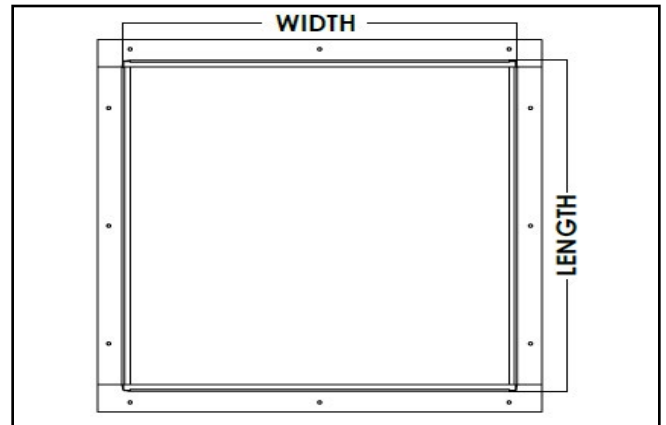

Figure 3.
3. Cut hole in drywall per dimensions below. (Figure 3)